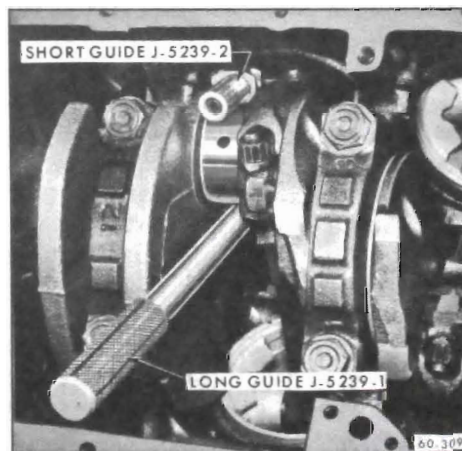

Figure 60-231 Connecting Rod Bolt Guides Installed
4. With No. 1 crankpin straight down, remove the cap with bearing shell from No. 1 connecting rod, then install the *short* Connecting Rod Bolt Guide J-5239-1 on the lower connecting rod bolt, above crankpin. See Figure 60-231.